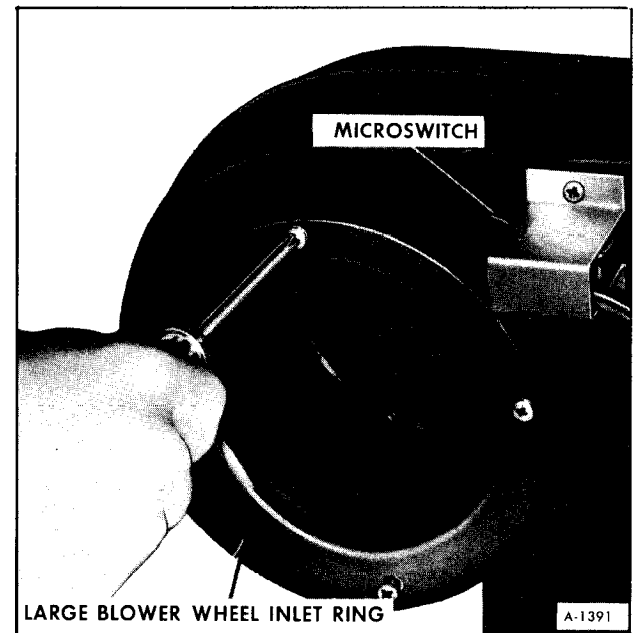

Figure 25—Removing Blower Wheel Inlet Ring
6. Remove large blower wheel inlet ring (4 screws) (figure 25).
7. Install large blower wheel inlet ring to housing (4 screws) (figure 25).